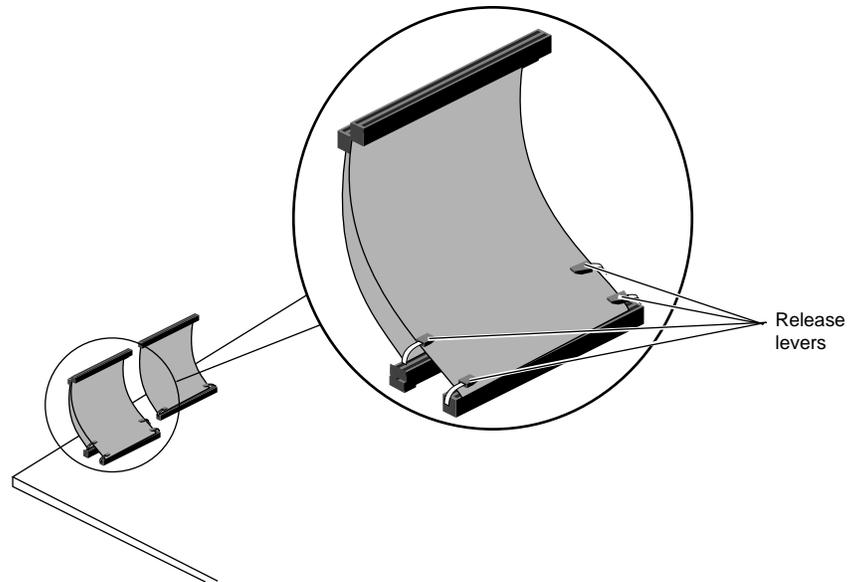

Figure 1-29 Slipping the Inner Cable Through the Outer Cable
3. Slip the inner cable through the release levers of the outer cable of the two-cable set, as shown in Figure 1-29.